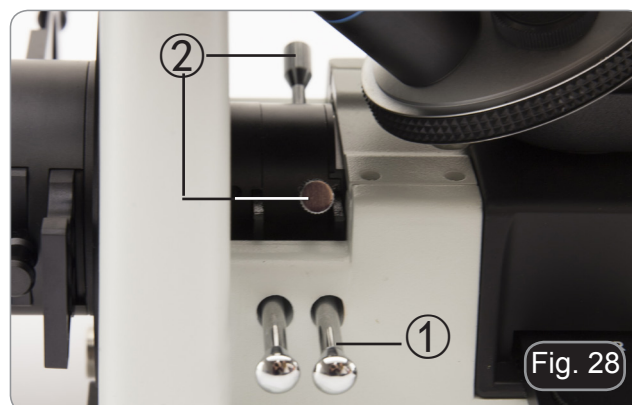

Fig. 28
Raise eye shields and observe at the microscope placing eyes to the shields, avoiding external light to disturb the observation. (Fig. 28)
2. Pull the field diaphragm lever ① to fully close the field diaphragm. (Fig. 28)
3. Rotate the two centering screws ② to bring the bright spot in the center of the field of view. (Fig. 28)